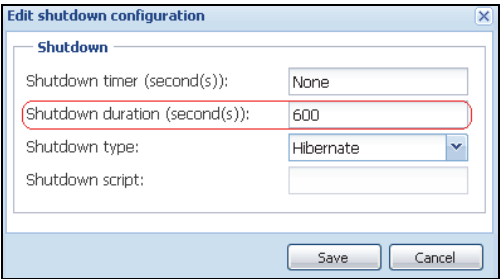

Figure 65. Edit Shutdown Configuration Dialog Box
- The IPP default configuration is available from **Settings > Shutdown > Edit Shutdown Configuration** (see Figure 65).